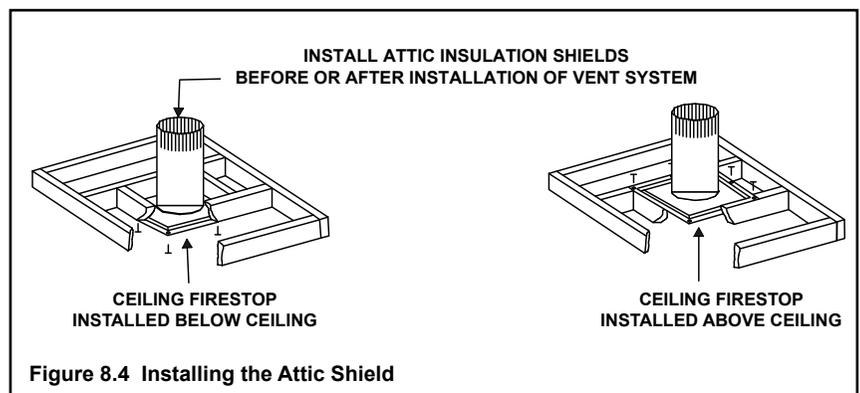

Figure 8.4 Installing the Attic Shield
- **SLP pipe only** - Frame opening 9 in. x 9 in. (229 mm x 229 mm) whenever the vent penetrates a ceiling/floor (see Figure 8.4).